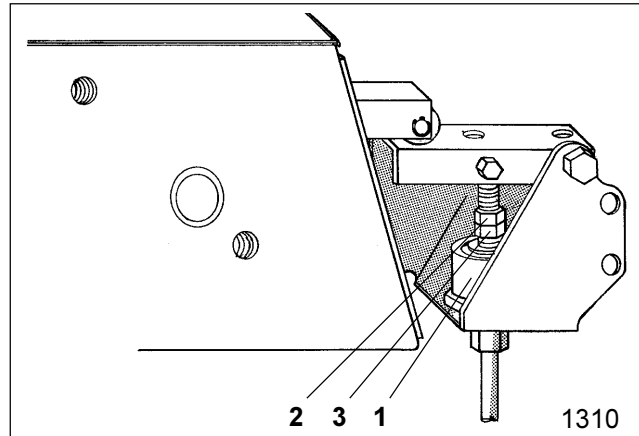

Fig. 18.20
Repeat the checking as described above. However do not switch over the switch box with the control lever (18.17/1) but actuate the control spool valve in the tractor cab. The switch box is then switched over by a hydraulic ram (Fig. 18.20/1).
In case the hydraulic ram (Fig. 18.20/1) does not shift on the switch box, the following settings should be conducted:
- Pressurise the hydraulic ram (Fig. 18.20/1) from the tractor cab
- Slacken counter nut (Fig. 18.20/2)
- Turn hex. nut (Fig. 18.20/3) to the left hand (counter clockwise) until the switch box audibly switches over
- Turn hex. nut (Fig. 18.20/3) two further complete turns and retighten counter nut